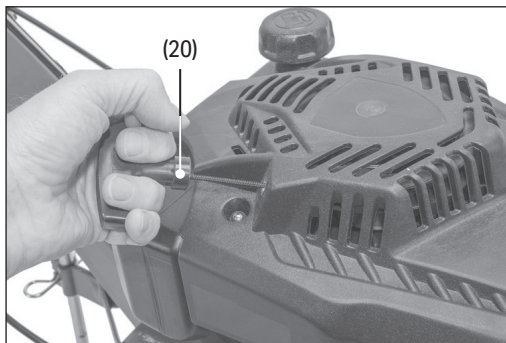

Fig. 19
4. Gently pull on the recoil starter (20) until resistance is felt, then pause and pull it out rapidly (Fig. 19).